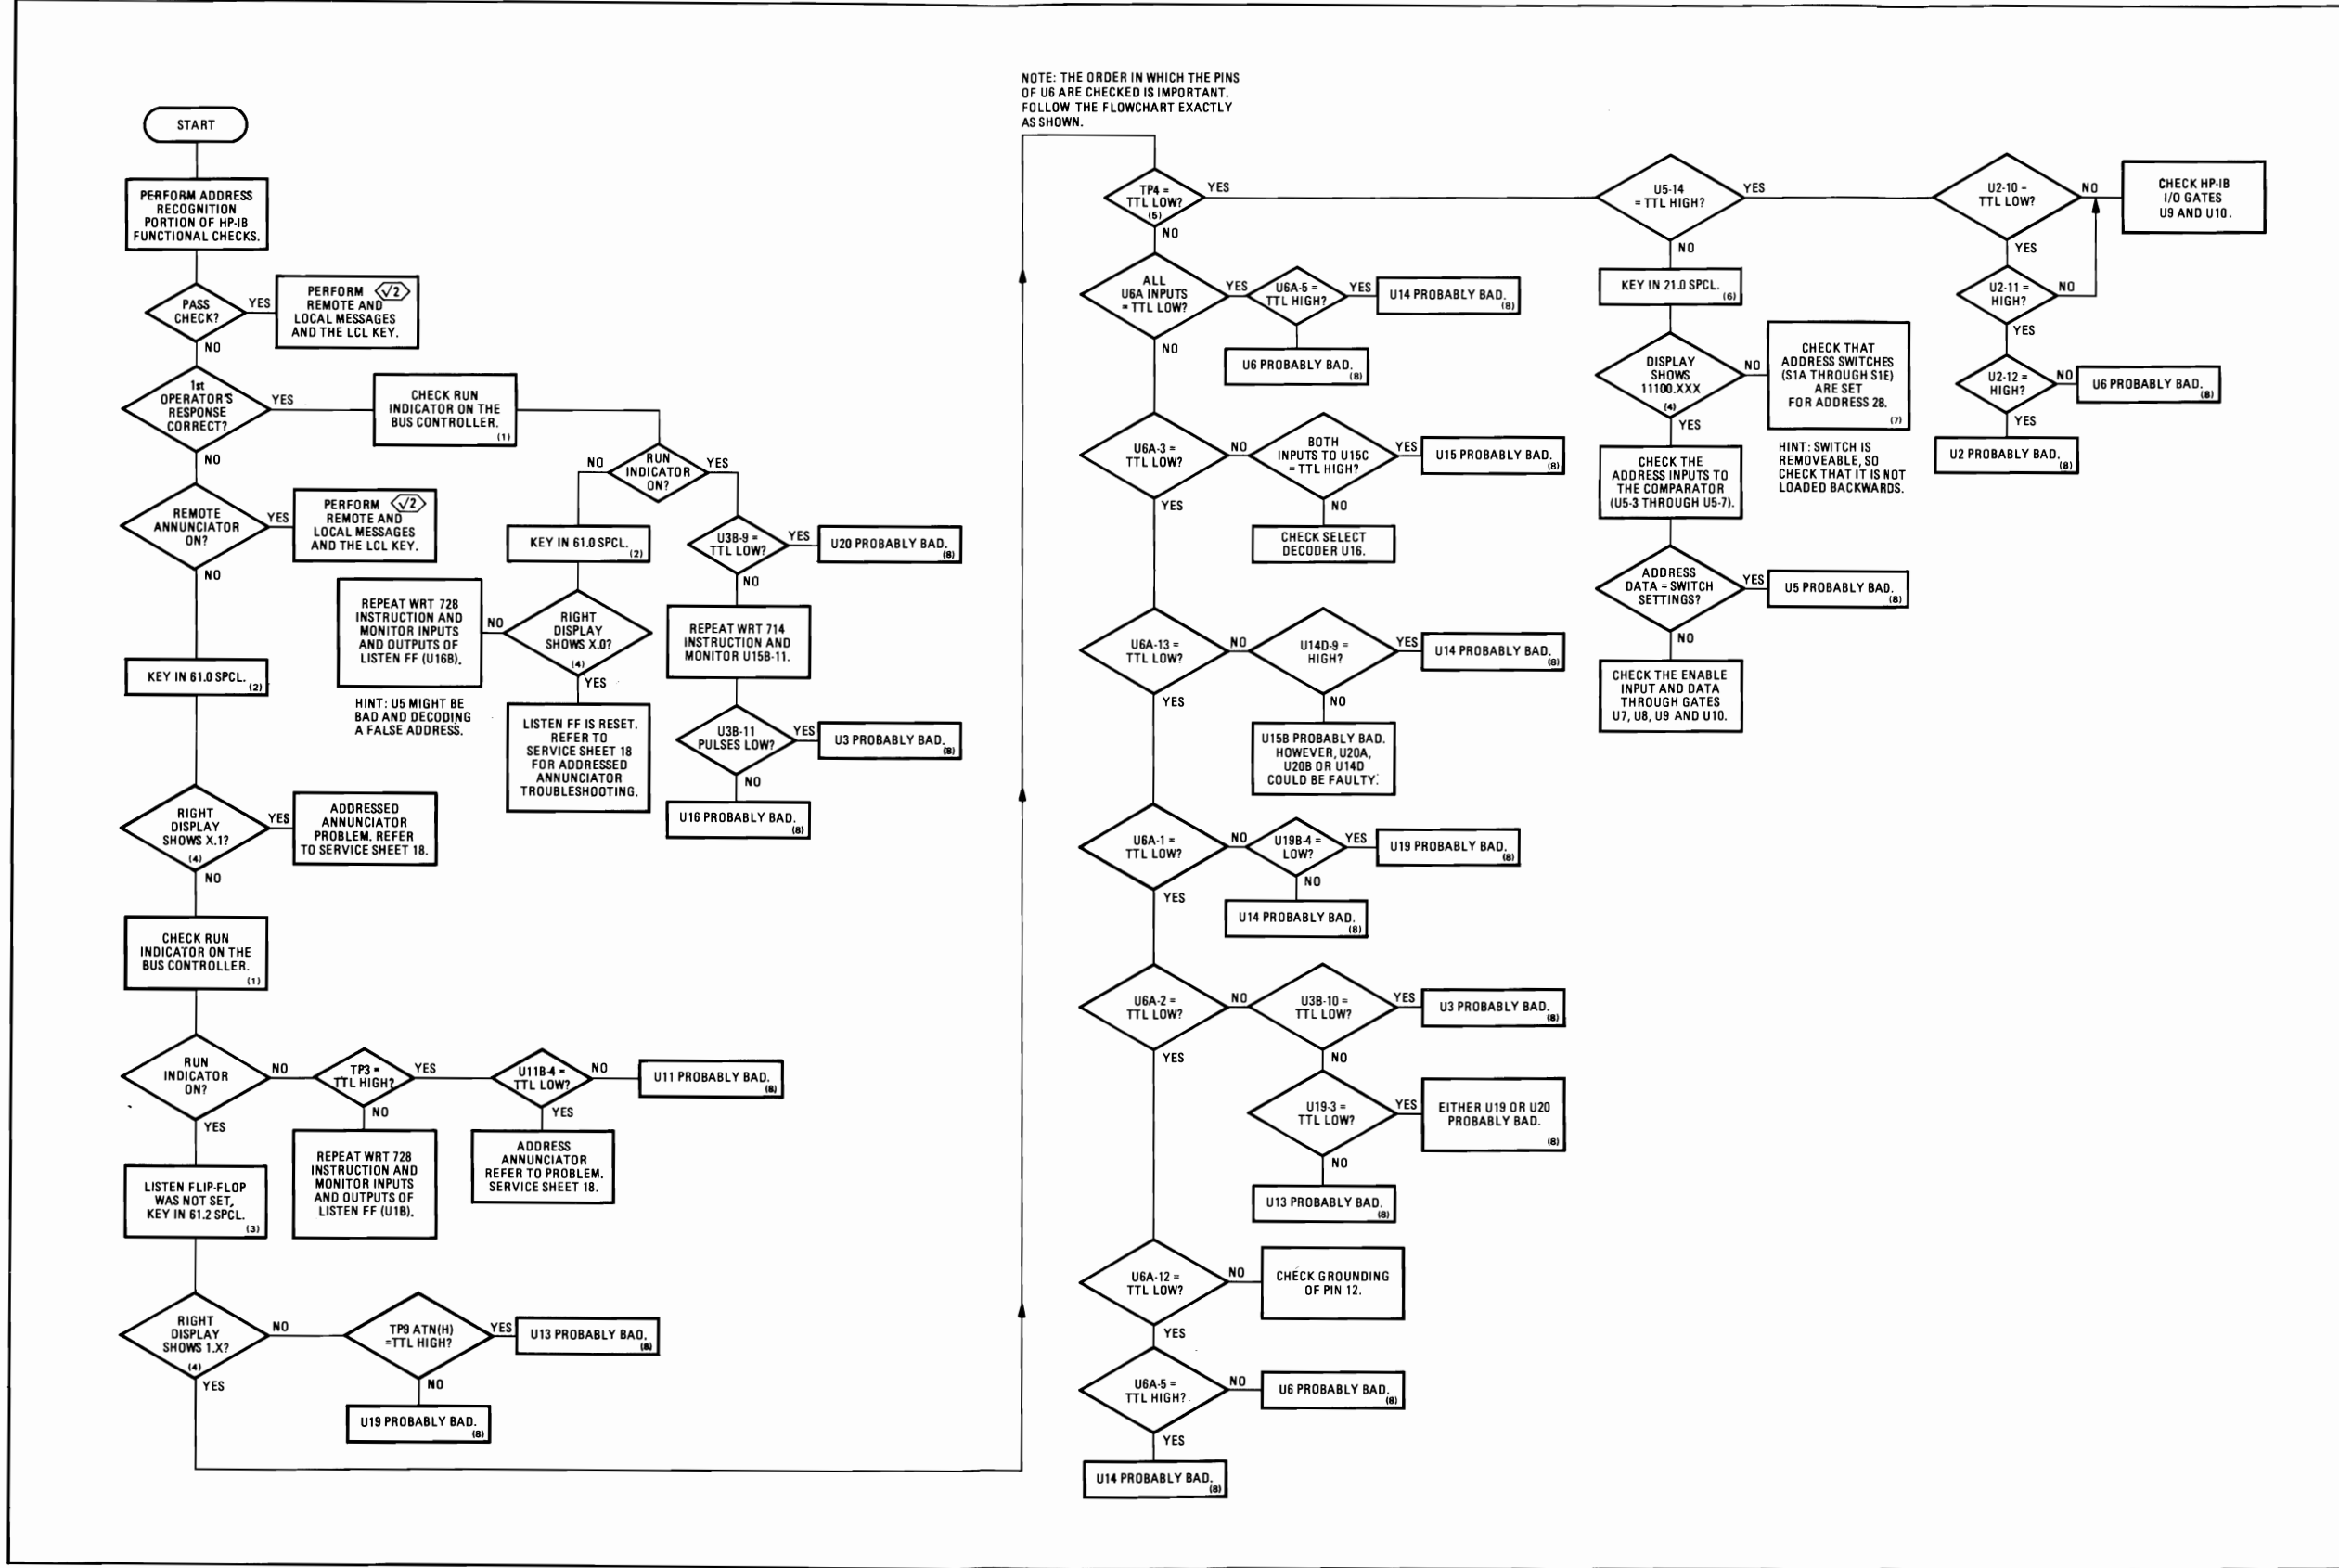

Figure 8-111. (1) Address Recognition Check Troubleshooting Flowchart
1. Perform the steps shown in the Address Recognition Troubleshooting Flowchart, Figure 8-111.